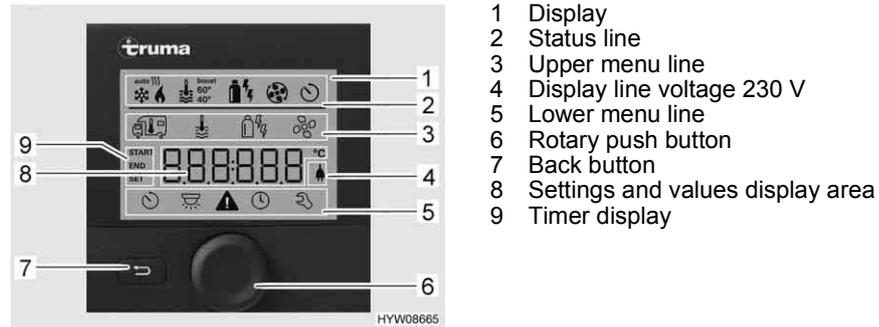
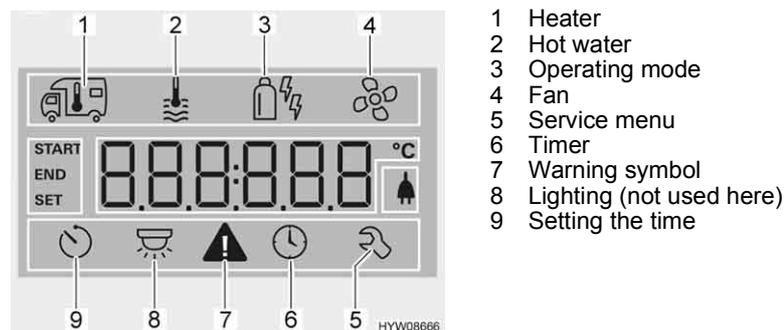

Fig. 191 Operating unit with displays
Fig. 192 Display
- Status line (Fig. 191,2)
- Upper menu line (Fig. 191,3)
- Display area (Fig. 191,8)
- Lower menu line (Fig. 191,5)
- Press and hold the rotary push button (Fig. 191,6) for approx. 3 seconds. Both menu lines (Fig. 191,3 and Fig. 191,5) are displayed. The first symbol flashes.
- Turn rotary push button (Fig. 191,6) until the required menu symbol flashes.
- Press rotary push button to save the value set. If you do not wish to change the value originally set: Press back button (Fig. 191,7).
- Turn rotary push button (Fig. 191,6) until the heater menu symbol (Fig. 192,1) flashes.
- Press rotary push button to save the value set. The symbol in the status line (Fig. 191,2) flashes until the room temperature set is reached. If you do not wish to change the value originally set: Press back button (Fig. 191,7).
- Turn rotary push button (Fig. 191,6) until the menu symbol operating mode (Fig. 192,3) flashes.
- Press the rotary push button to save the set operating mode. To revert to the original setting: Press back button (Fig. 191,7).
- Turn rotary push button (Fig. 191,6) until the fan menu symbol (Fig. 192,4) flashes.
- Turn rotary push button (Fig. 191,6) until the timer menu symbol (Fig. 192,6) flashes.
- Press rotary push button. The timer is activated. The timer symbol (Fig. 192,6) flashes when the timer is programmed and active.
The warning symbol (Fig. 192,7) flashes in the event of a warning. The heater continues to operate. In the event of only a temporary fault, the warning symbol goes out automatically.